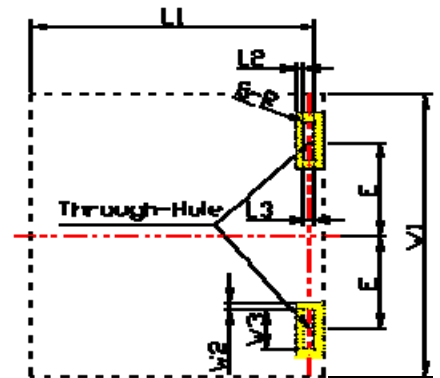

Fig.3-4
3.2 Recommended PCB pattern, please see Fig. 3-4 and Table 3-1.